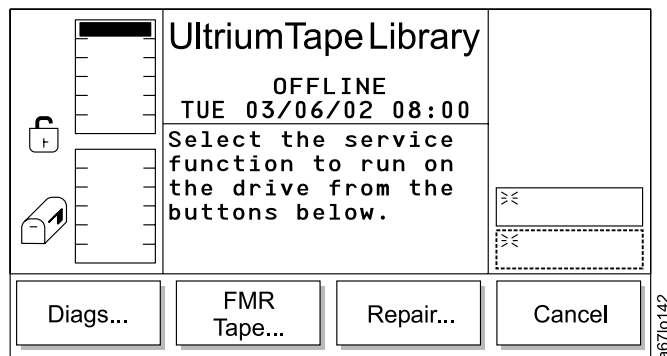

Figure 191. Drive Service Dialog
- If **OK** is selected, the Drive Service Dialog displays (see Figure 191).
- If **Cancel** is selected, the Drive Service Dialog displays (see Figure 191 on page 148).
- If **Cancel** is selected, the Drive Service Dialog displays (see Figure 191 on page 148 ).